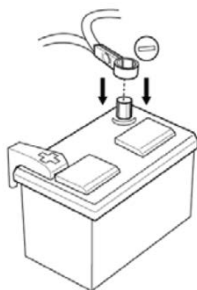

Fig. 3-4
- (1) Door Open: Front door sills illuminate.
- (2) Press Door Switch: Front door sills turn off immediately.
- (f) Reconnect the battery (Fig. 3-4).
- (1) Position the negative battery cable at the original factory position.
-  (2) Do not touch the positive battery terminal.